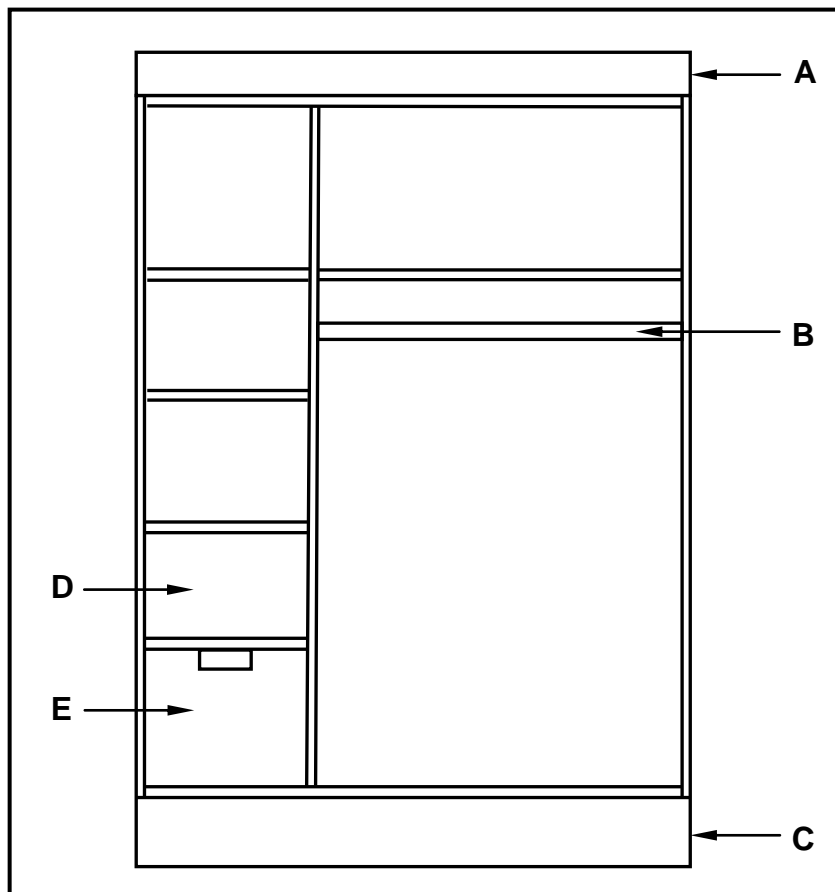

FIGURE 3.1
- 3.1 FIGURE 3.1 below shows the inside of a built-in cupboard without doors. Study the sketch and answer the questions that follow.